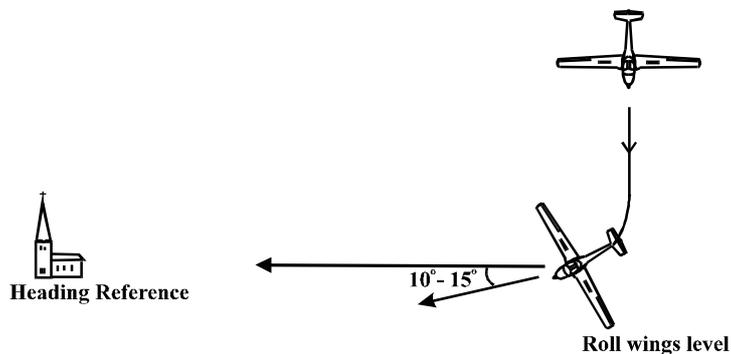

Fig 8. Rolling out onto a feature.
- a. Approximately  $10-15^\circ$  before the selected heading is achieved look ahead. (See Fig 8).
2. **The approach and landing.** The approach and landing can be split up into four manageable parts, the approach, the round out, the hold off and the ground run (as shown in Fig 8).
6. **The landing.** Essentially, the landing can be broken down into four parts, the round out, hold off, the touch down and ground run. See Fig 8.